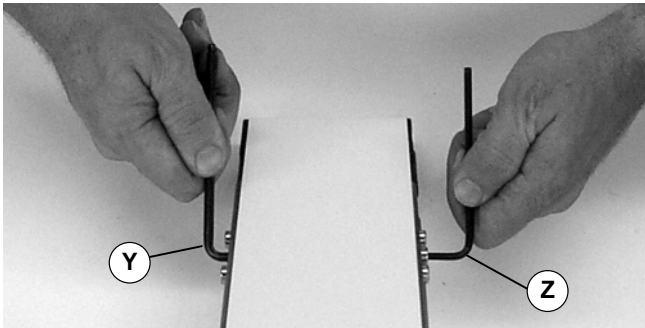

Figure 22
5. While maintaining tension on pinion gear (Y of Figure 22) loosen lock screw (Z). Rotate pinion gear (Y) clockwise to release conveyor belt tension.
6. While maintaining tension on pinion gear (Y of Figure 22) loosen lock screw (Z). Rotate pinion gear (Y) clockwise to release conveyor belt tension.
2. With pinion gear engaged, insert a 4 mm hex key wrench into lock screw (Z of Figure 22).
3. Loosen lock screw (Z of Figure 22).
- Secure lock screw (Z of Figure 22) to 40 in-lb (4.5 Nm).